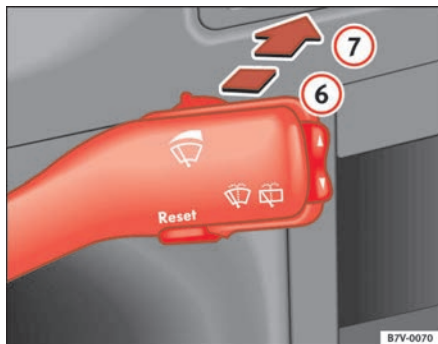

Fig.80 Windscreen wiper and windscreen wash lever rear window wiper
- Press the lever forwards to position ⇒ fig. 80 ⑥. The wiper will wipe the window approximately every 6 seconds.
- Press the lever fully forwards to position ⇒ fig. 80 ⑦. The rear window washer starts to work immediately while the rear window wiper starts a little later and continues working while the lever is in this position.